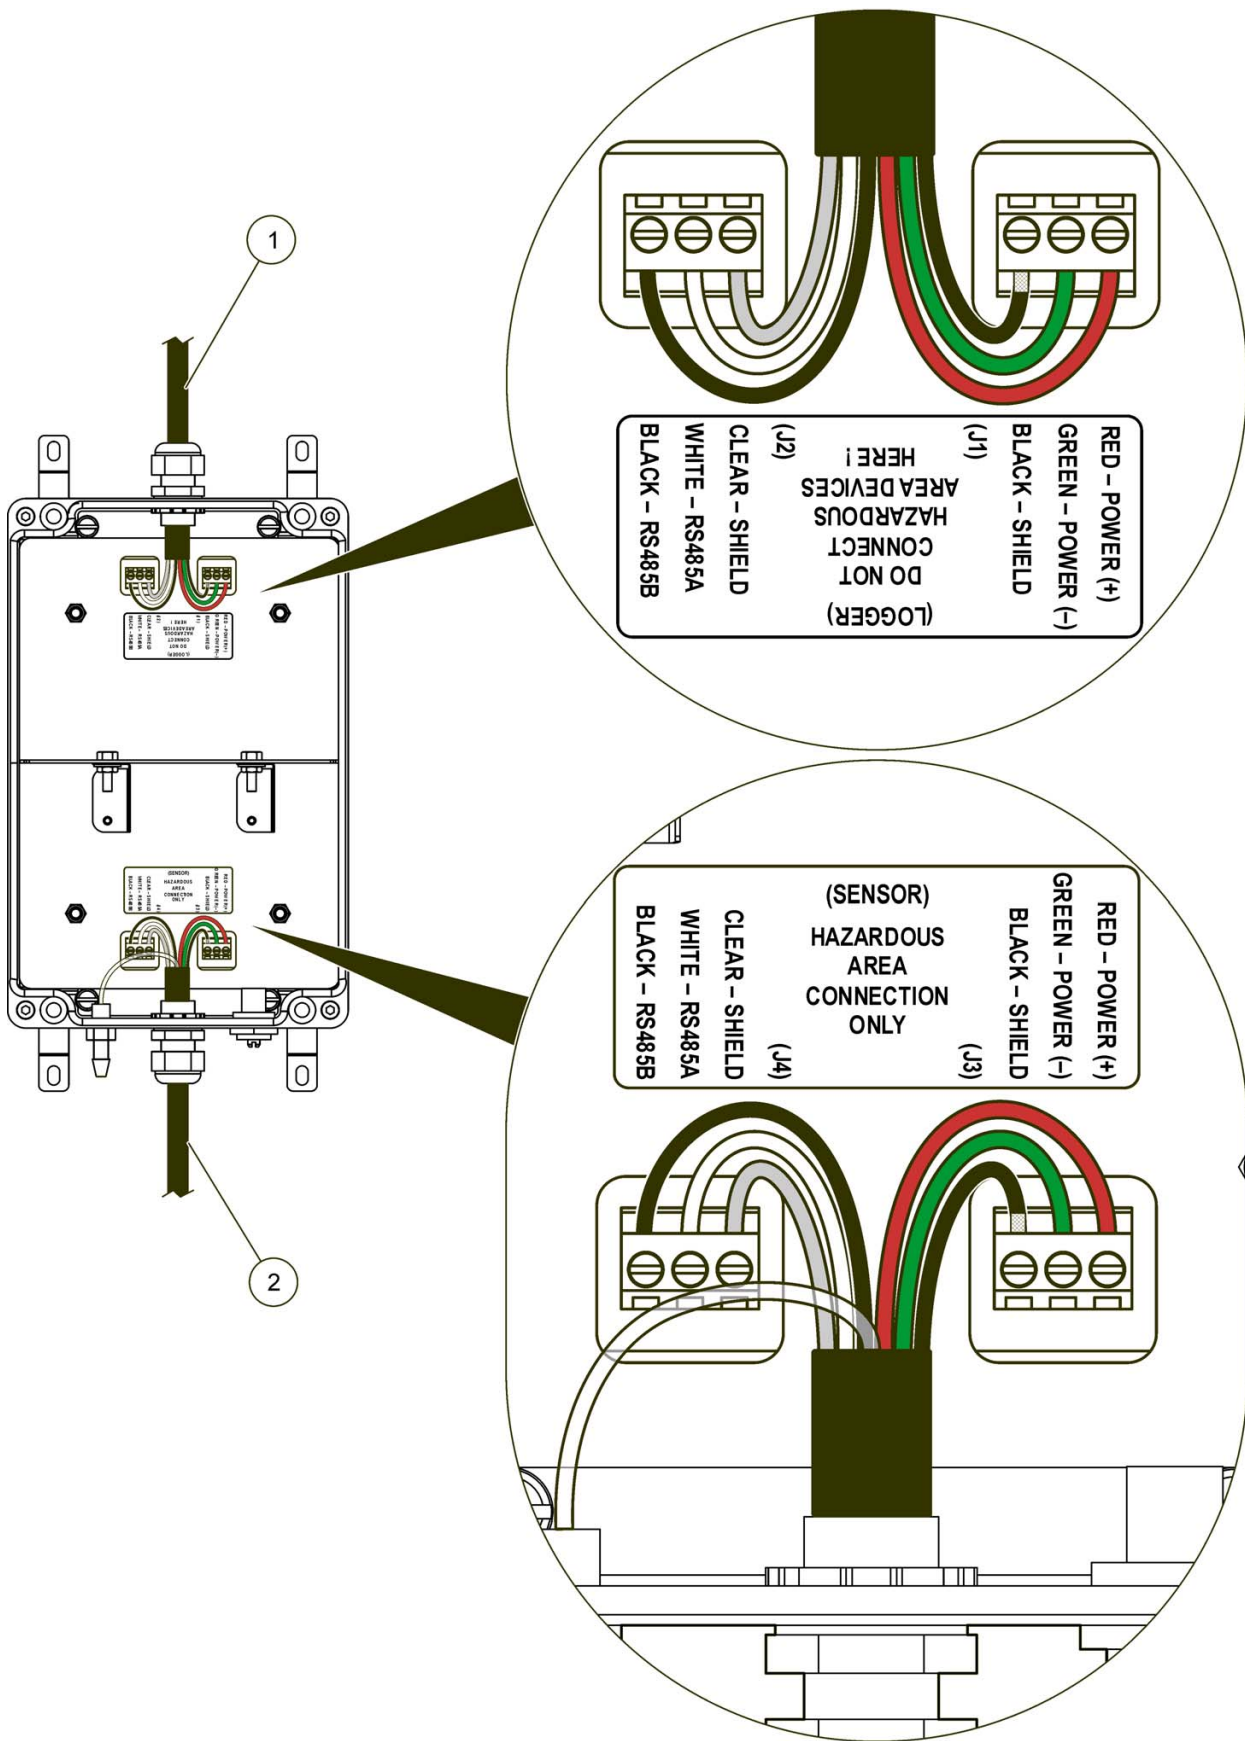

Figure 3 Barrier wiring
2. Insert the cable from the Flo-Dar sensor through the strain relief fitting on the side of the barrier with the hazardous area connection label (Figure 3 on page 14). Tighten the strain relief.
3. If the Flo-Dar sensor has the optional SVS component, insert the cable from the SVS sensor through the strain relief fitting on the side of the second barrier with the hazardous area connection label (Figure 3 on page 14). Tighten the strain relief.
5. Install the wires in terminals J3 and J4 as shown in Figure 3 on page 14. Pull lightly after each insertion to make sure the connections are tight.
6. Install the air tube from the sensor cable into the fitting in the barrier enclosure as shown in Figure 3 on page 14.
7. Insert the cable from the logger or controller through the strain relief fitting on the other side of the barrier (Figure 3 on page 14). Tighten the strain relief.
9. Install the wires in terminals J1 and J2 as shown in Figure 3 on page 14. Pull lightly after each insertion to make sure the connections are tight.